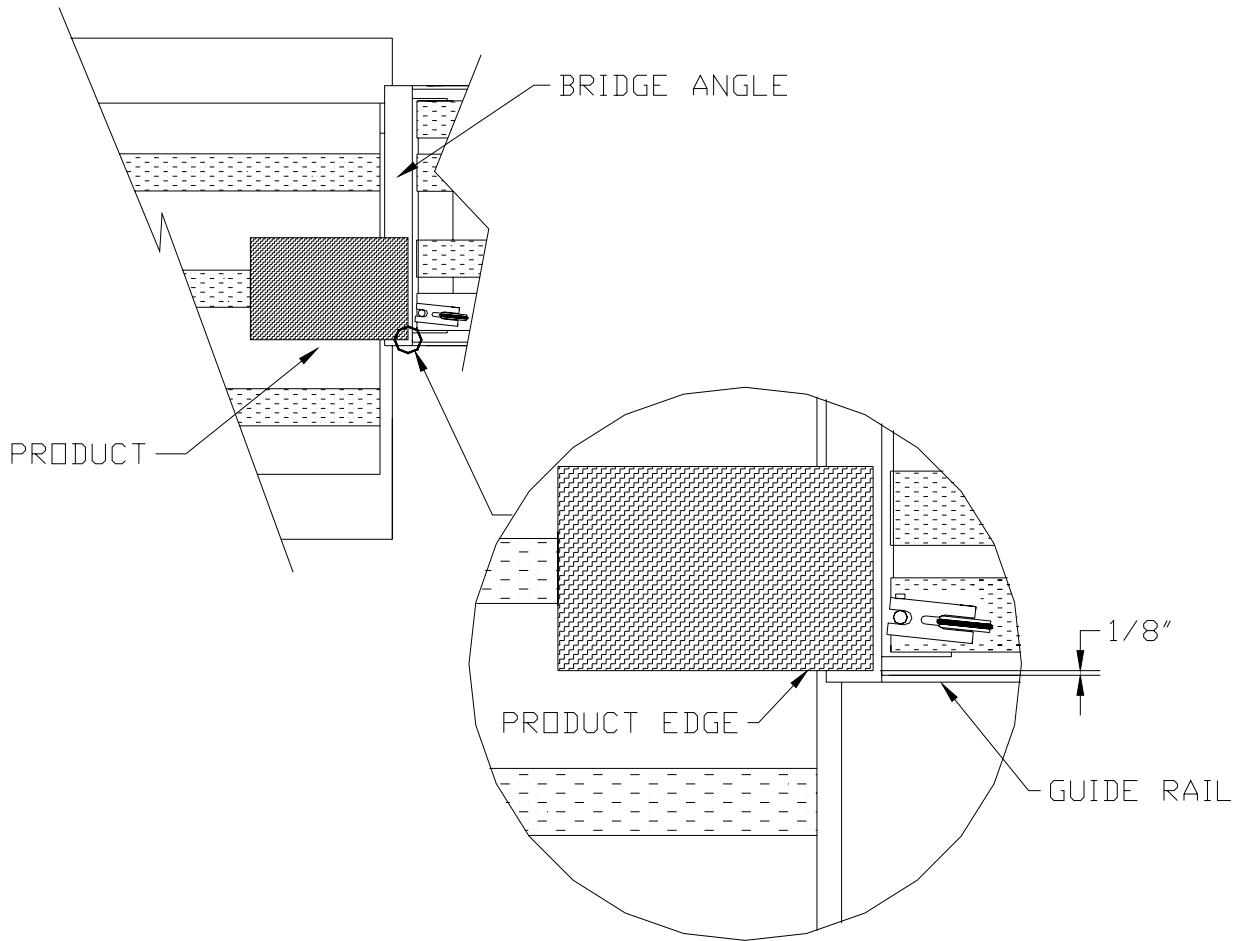

Figure 7
2. Loosen table lever lock (See Figure 5). Position transport table guide rail 1/8" from product edge (See Figure 7). Lock table lever.
This registration wheel assembly is designed to function on either side of the transport base. The assembly may be positioned over any portion of the lower transport belts along the square mounting shafts, by loosening lever locks and sliding to desired location. Drive pressure may be increased or decreased by rotating the Wheel Lift Knob. This knob is also used to lift the complete assembly off the lower transport belts for repositioning. The Registration Wheel Assembly functions best when product is delivered 1/8” or less from the guide rail at the entry point. (See Figure 7 of Section 4.1.4)